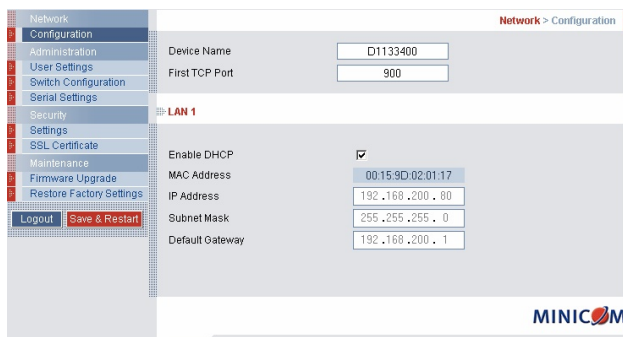

Figure 6 IP Control Web interface
4. Press **Enter**. The Web interface opens at the Network Configuration page. See Figure 6.
Under LAN 1 in Figure 6, is the following: